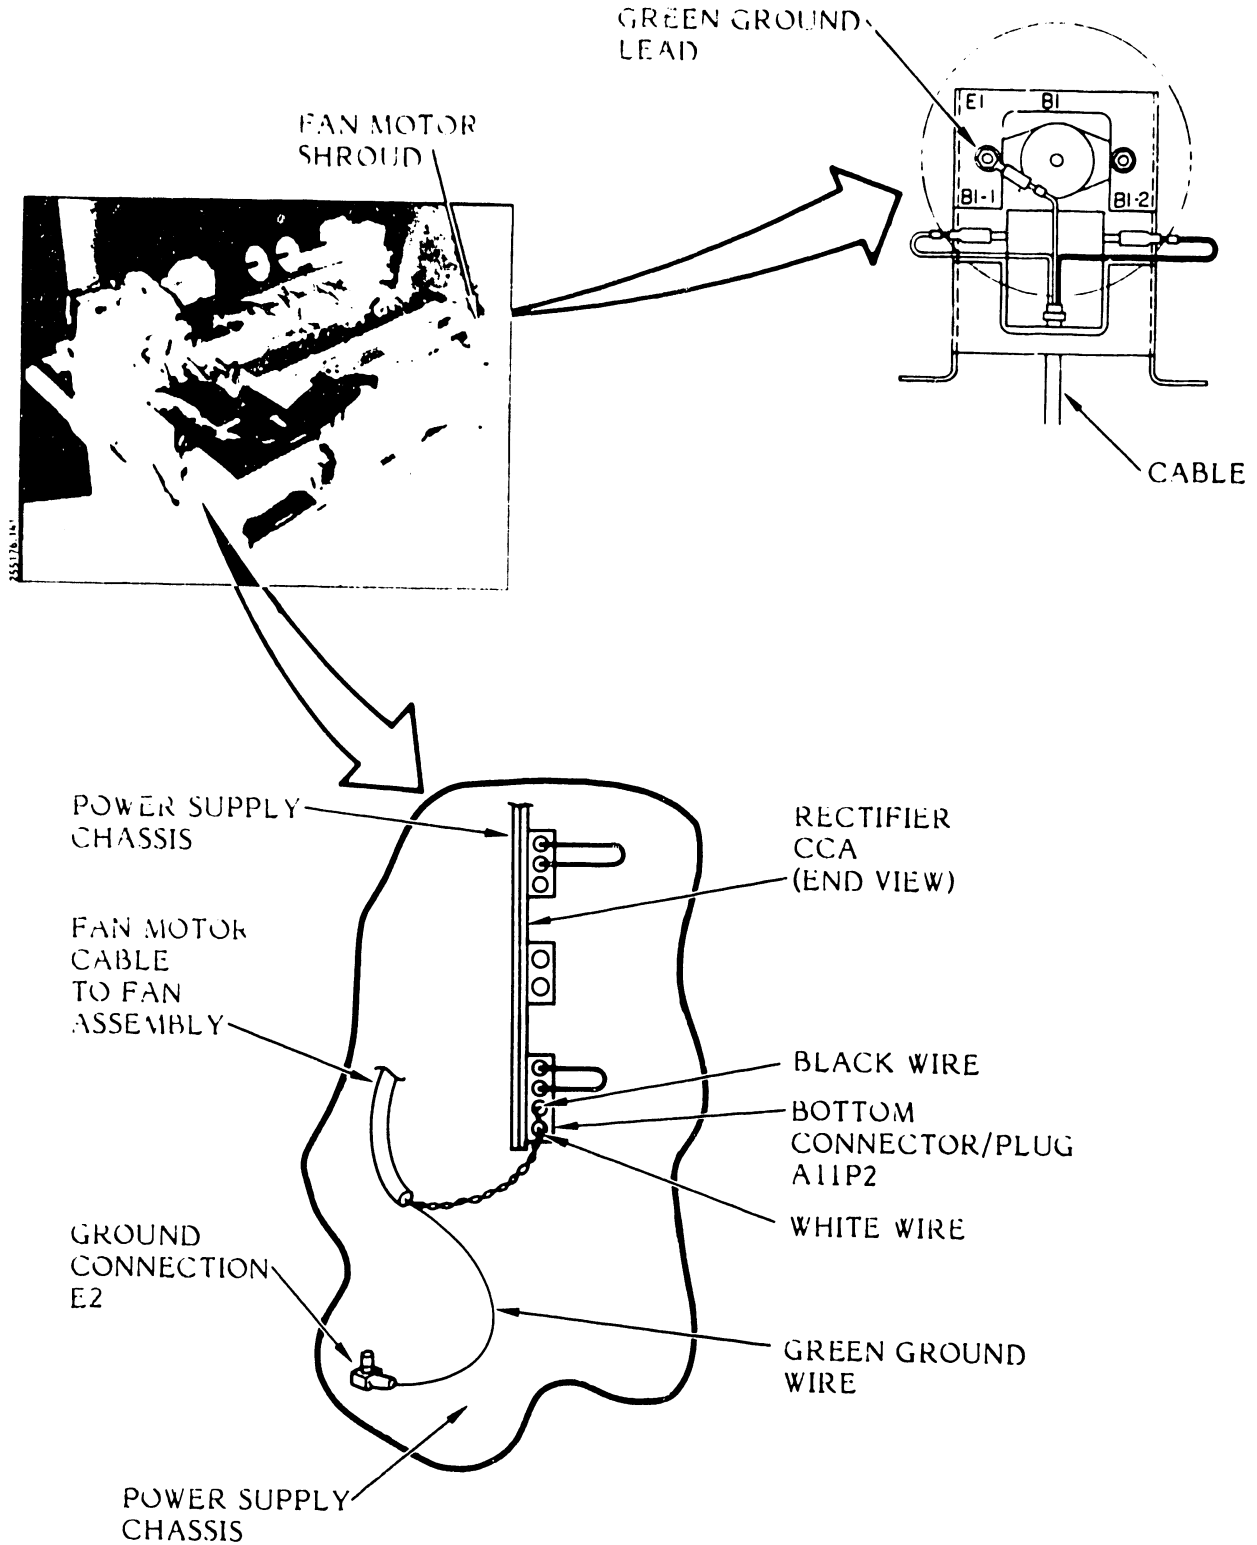

Figure 3-95. Fan Motor Cable Removal/Installation
3.7.26 Fan Motor Cable Removal/Installation (Figure 3-95)
- h. Disconnect cable plug A11P2 from the Rectifier CCA connector A9J4 (see figure 3-95).